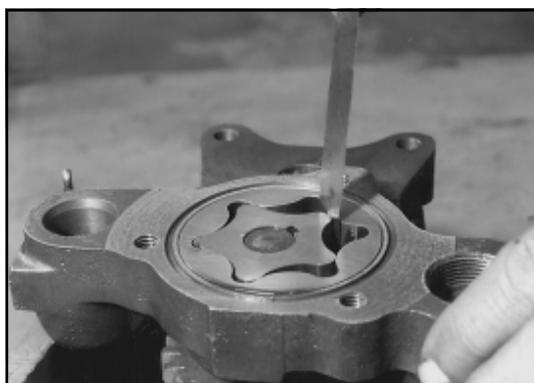

Fig.9-26
- Check the end clearance between the pump rotor and the pump body with a straight edge and a feeler gauge (Fig.9-26). If the clearance exceeds the specified limit (Refer to Specification Data), replace the pump assembly.